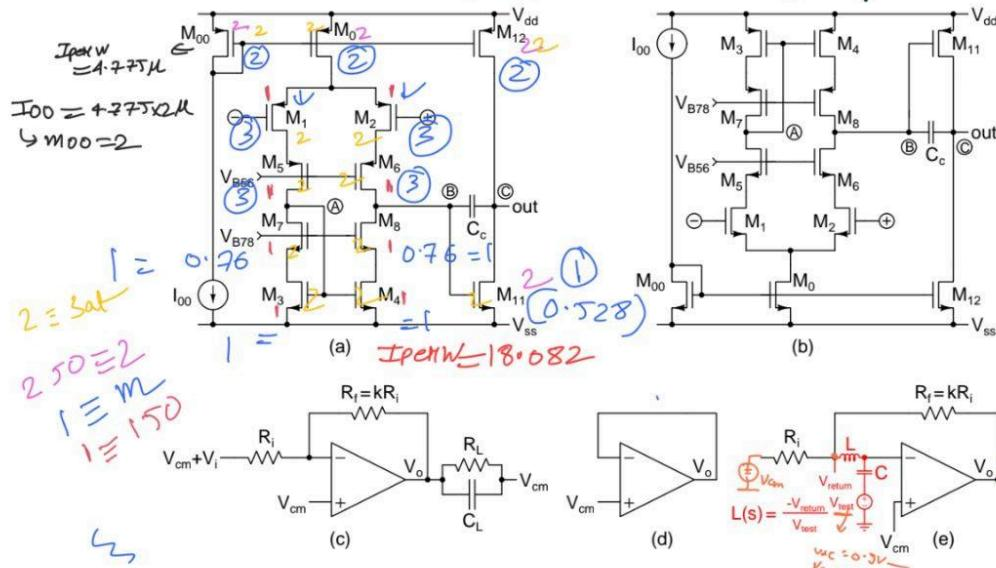

Figure 6.1: Problem 6.1.
- 6.1. Fig. 6.1 shows two-stage opamps. The first stage is a telescopic cascode stage. (a) uses a pMOS differential pair in the first stage and an nMOS common-source amplifier in the second stage. (b) uses an nMOS differential pair in the first stage and a pMOS common-source amplifier in the second stage.
Realize the inverting amplifier (Fig. 6.1(c)) that you designed in assignment 4 using these opamps. You will be using the same component values here. You will also need the results of MOS characterization to determine the current density.
For simulating the operating point, place the opamp in unity negative feedback as shown in Fig. 6.1(d) or simulate it in open loop with nodes A, B, and C shorted to each other and both inputs at V_{cm} .
- Loop gain magnitude (dB) and phase (degrees). The unity loop gain frequency and phase margin must be marked. Break the loop as shown in Fig. 6.1(e) to simulate the loop gain. Use large L , C , e.g., $L = 10^6 \text{ H}$, $C = 1 \text{ F}$. The frequency range should be from $\sim 0.1 \times$ dominant pole to where the loop gain is $\sim -20 \text{ dB}$.